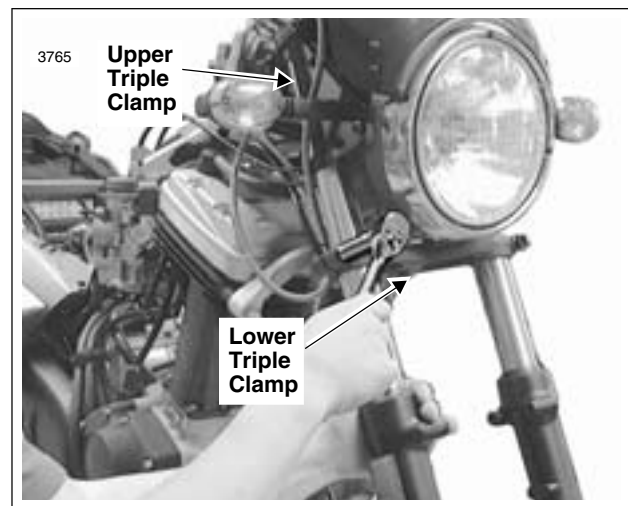

Figure 2-56. Pinch Screws
6. See Figure 2-56. Loosen the large pinch screws on both the upper and lower triple clamps.